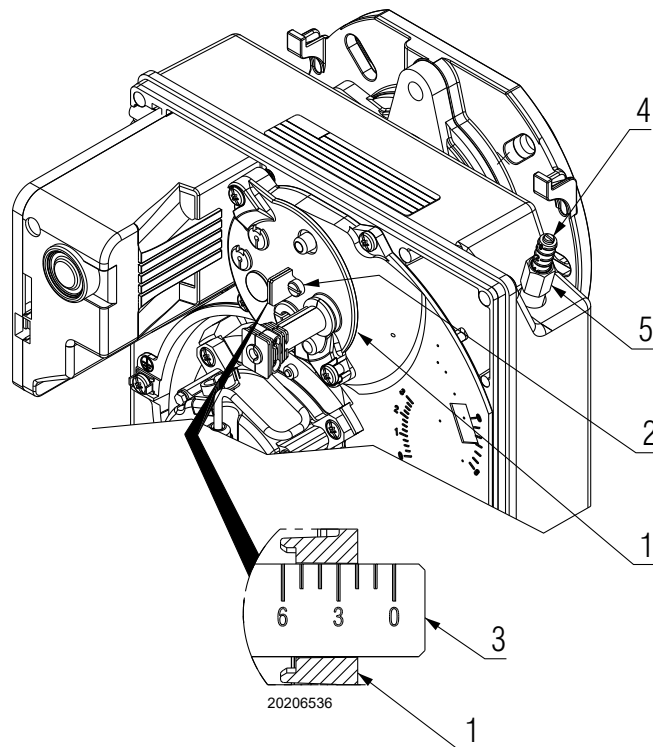

Fig. 11
- Turn the adjustment screw 2)(Fig. 11) clockwise or anti-clockwise until the notch on the regulating rod 3)(Fig. 11) lines up with the outside surface of the head cover 1)(Fig. 11).
- Loosen the nut 5)(Fig. 11) and calibrate the damper by acting on the screw 4)(Fig. 11).